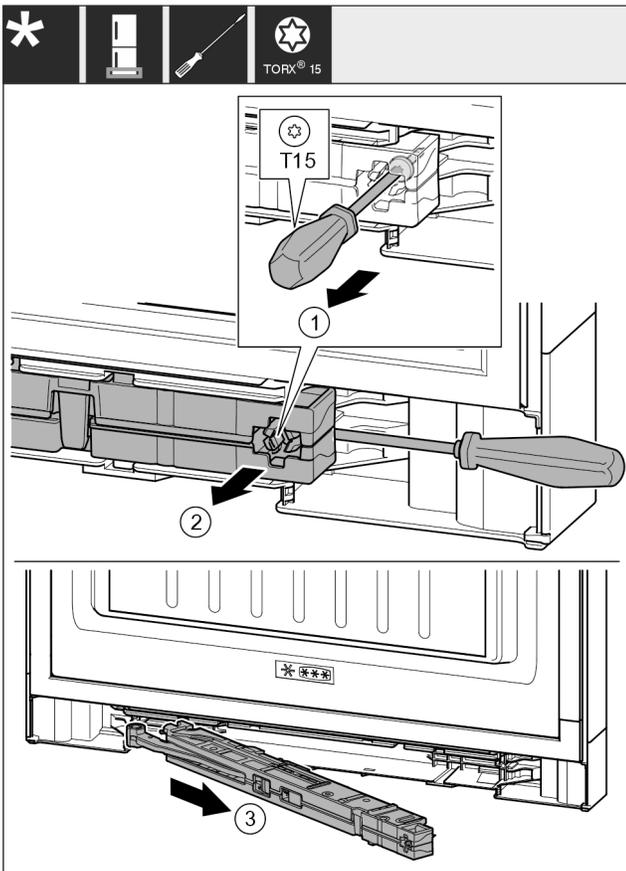

Fig. 15
- ▶ Undo the soft stop unit screw with a T15 screwdriver approx. 14 mm (0.55 in). Fig. 15 (1)
- ▶ Insert the screwdriver on the handle side behind the soft stop unit. Turn the unit forward. Fig. 15 (2)
- ▶ Pull out the unit. Fig. 15 (3)